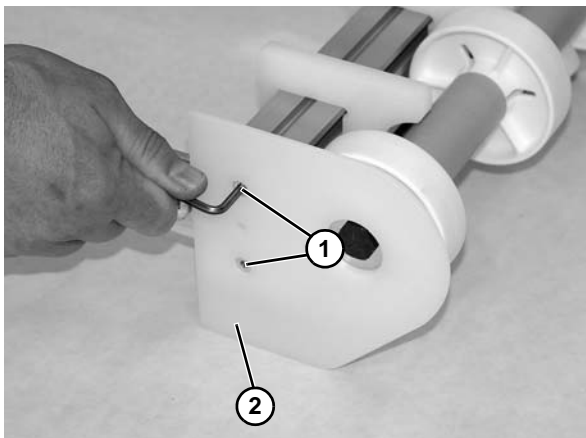

Figure 83
5. Remove two socket head screws (**Figure 83, item 1**) and filler plate (**Figure 83, item 2**).